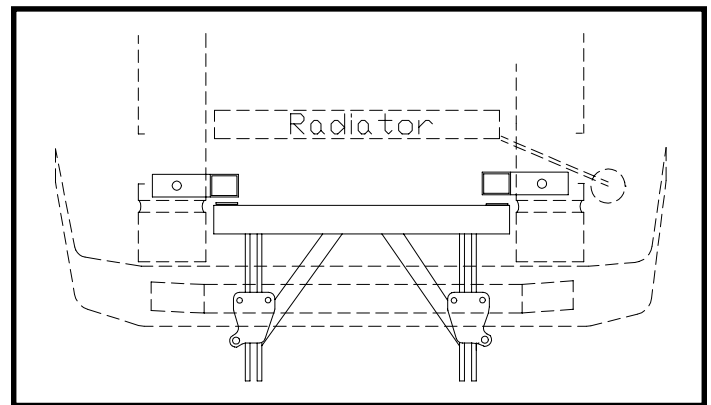

**Figure 1**
- Figure 1 gives measurements for the vertical locations of the holes in the shroud for the baseplates access. Compare these measurements to the marks you made in Step #13. The measurements in Figure 1 are to the center of the hole. The front-to-back location of the access hole is just ahead of the back edge of the shroud. Do not cut the shroud completely out the back, as that will considerably weaken it. With the hole located, use a utility knife to cut a 1 1/4" square in the shroud on both sides. If you have a small drill and an 1 3/8" hole saw, you may be able to mark the hole on the inside of the shroud and drill a round hole from the inside of the shroud.